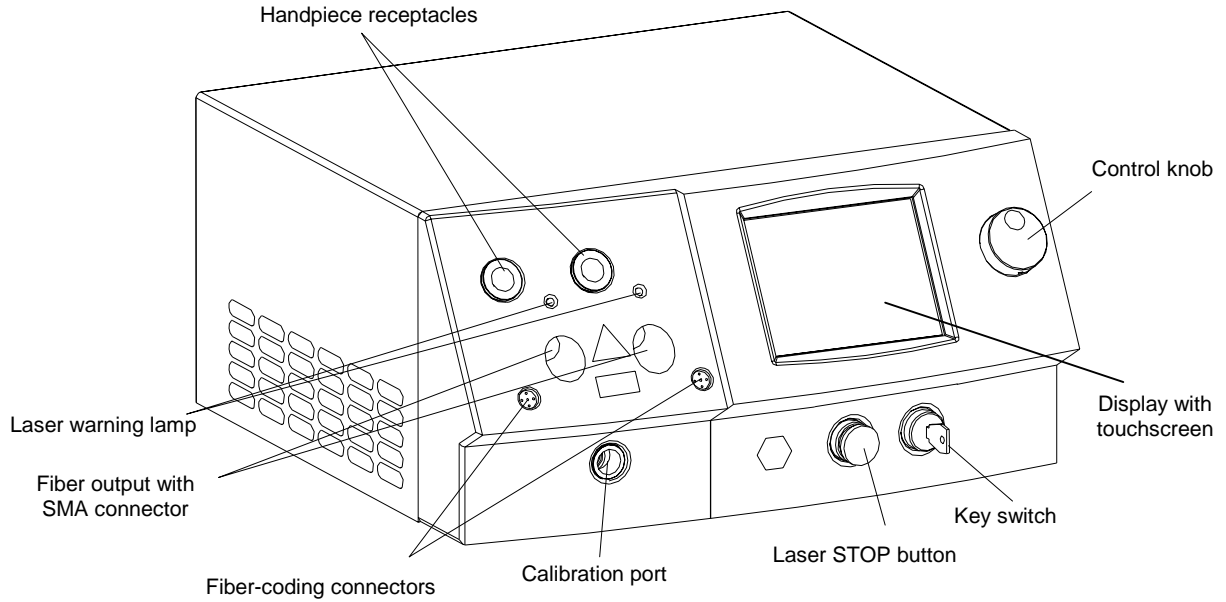

Figure 1: Front view
Afterwards, plug the applicator (bare fiber or fiber with handpiece) as far as it will go into the SMA connector on the front panel of the device (refer to *Figure 1, page 12*) and
- Afterwards, insert the safety key in the key switch (see *Figure 1, page 12*) and turn it clockwise as far as it will go.
The treatment parameters are to be adjusted via the touchscreen and the control knob at the right of the front panel (see *Figure 1, page 12*). Adjustment is very straightforward and self-explanatory.
The activated fiber connector is signaled by the laser warning LED directly above the SMA fiber connector (*Figure 1*).